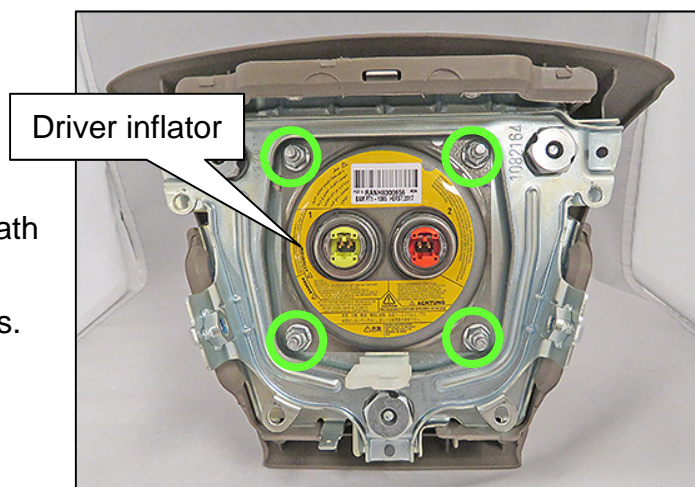

Figure 8
8. Remove the four (4) driver air bag inflator (inflator) nuts shown in Figure 8.